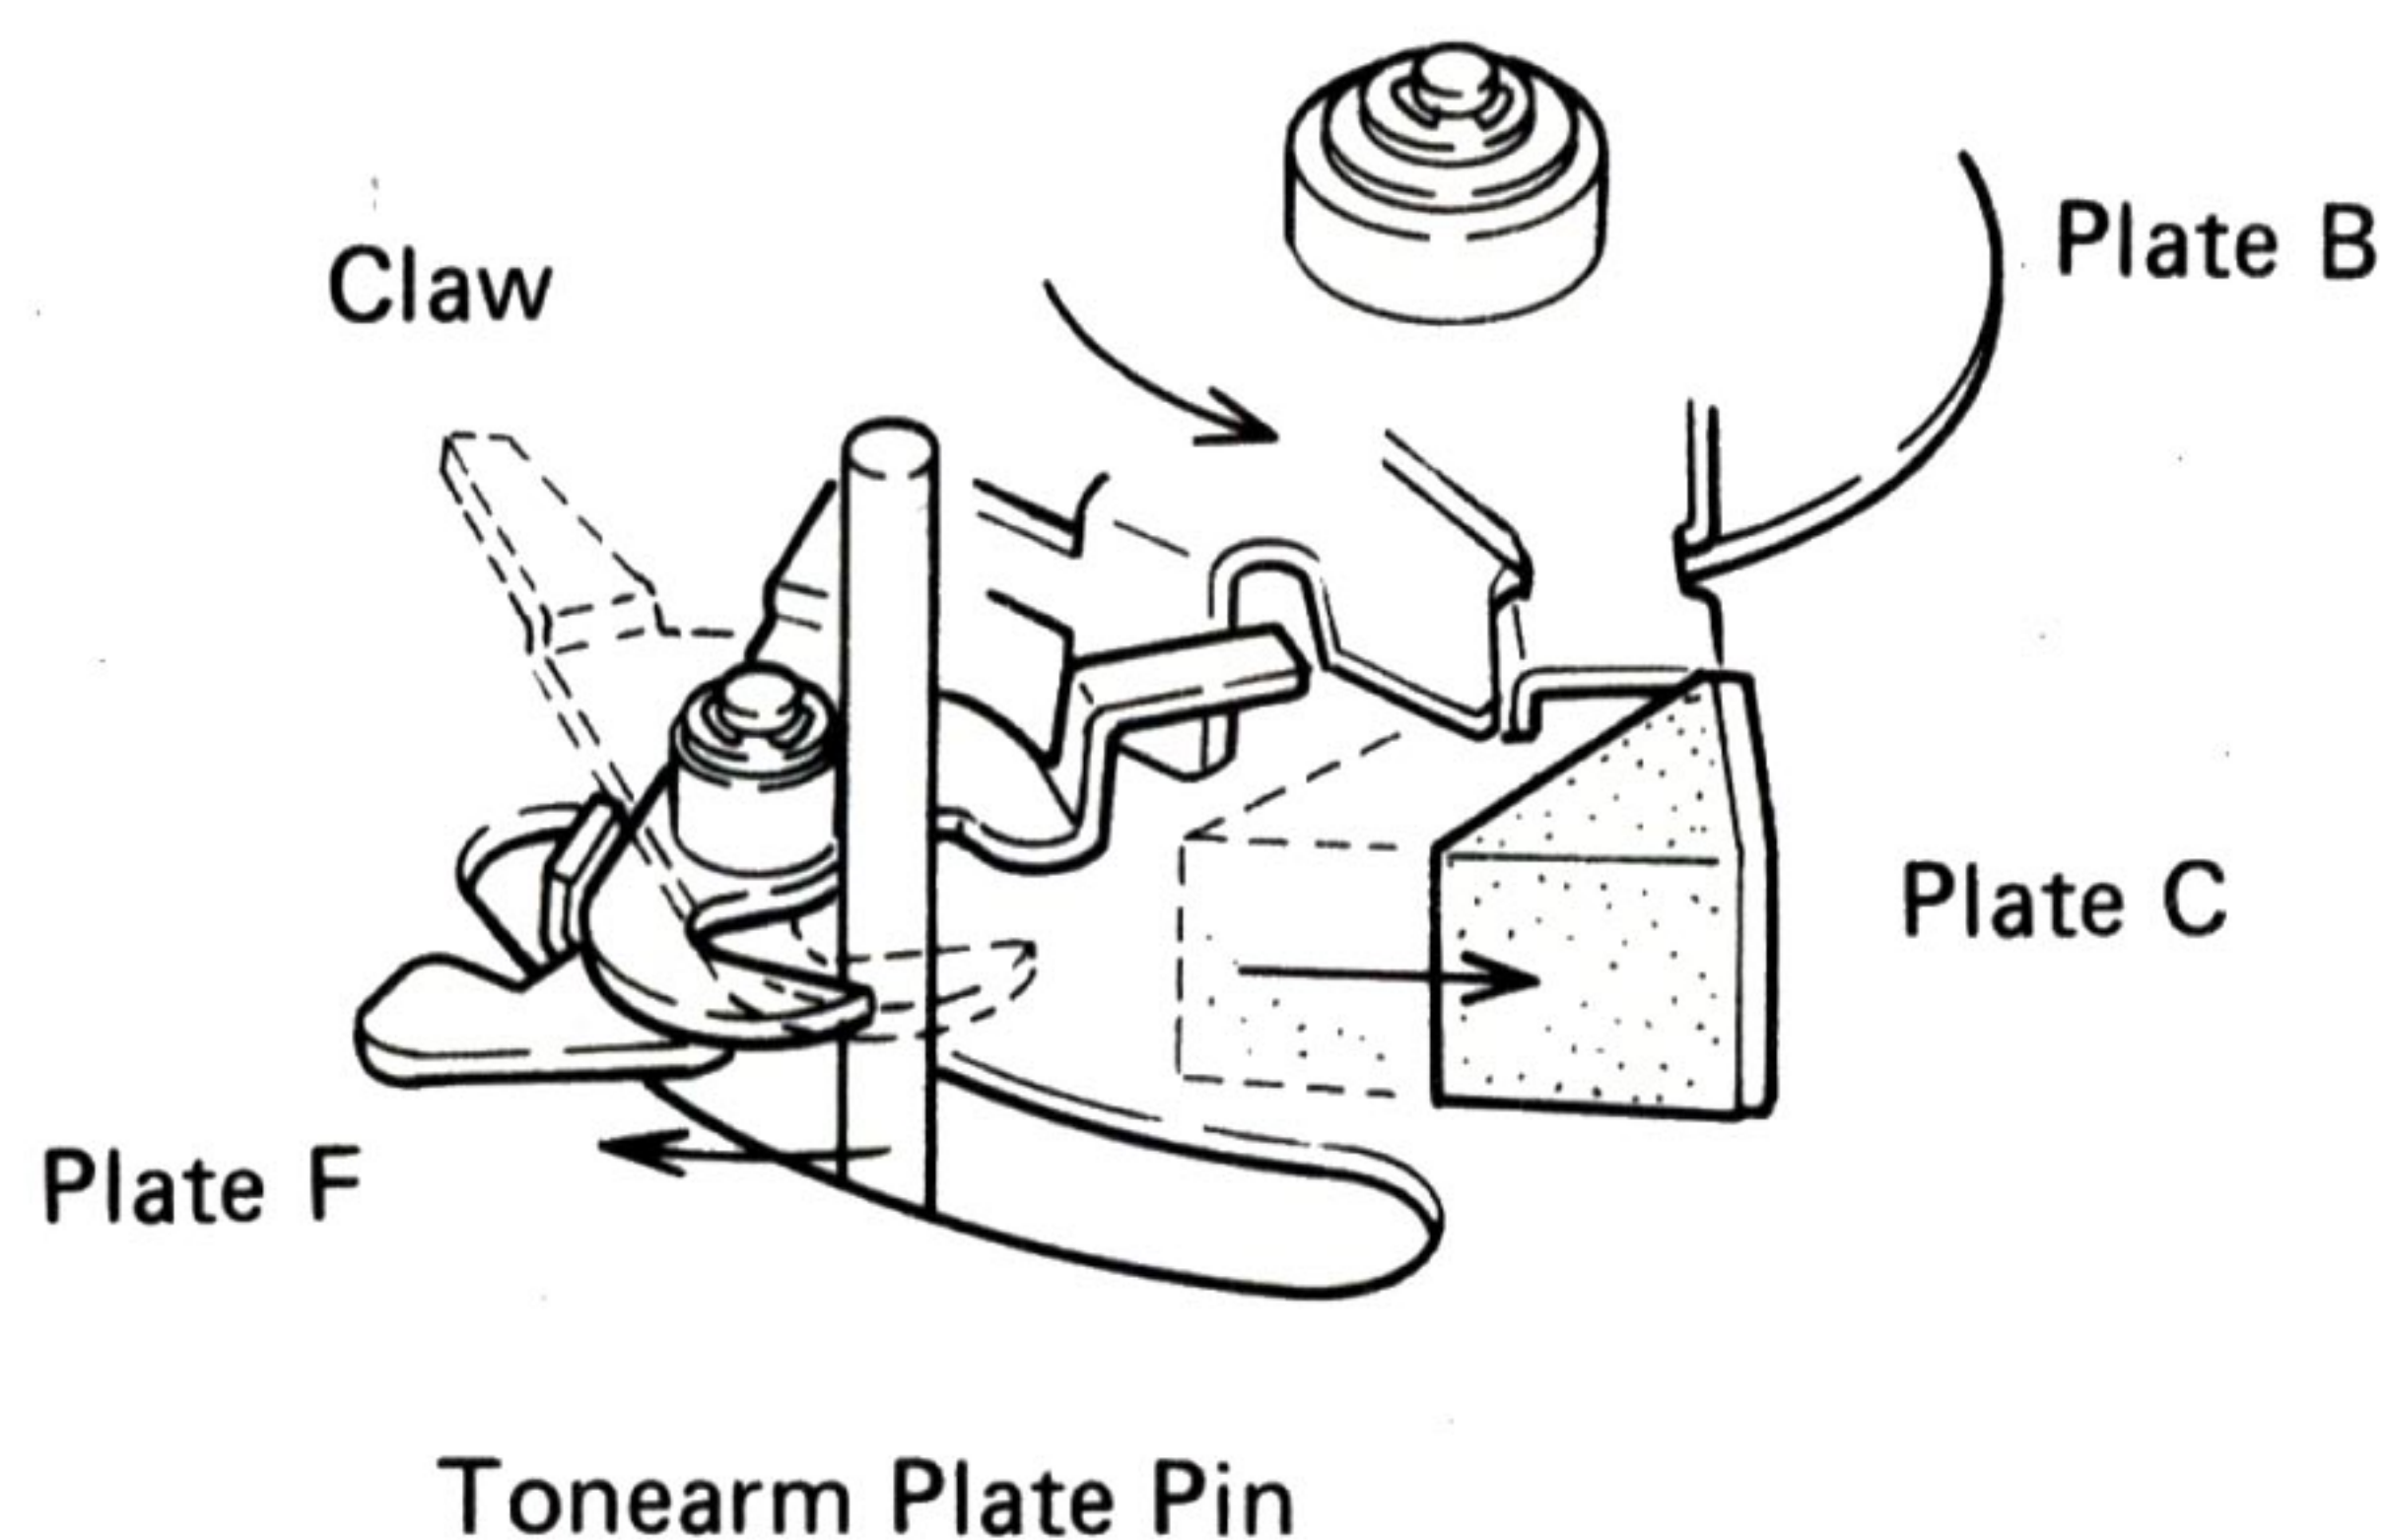

Fig. 17
- Because of the friction disc, plate B continues to rotate, whereby the claw on plate F releases the pin of the tonearm plate. This frees the tonearm (Fig. 17).